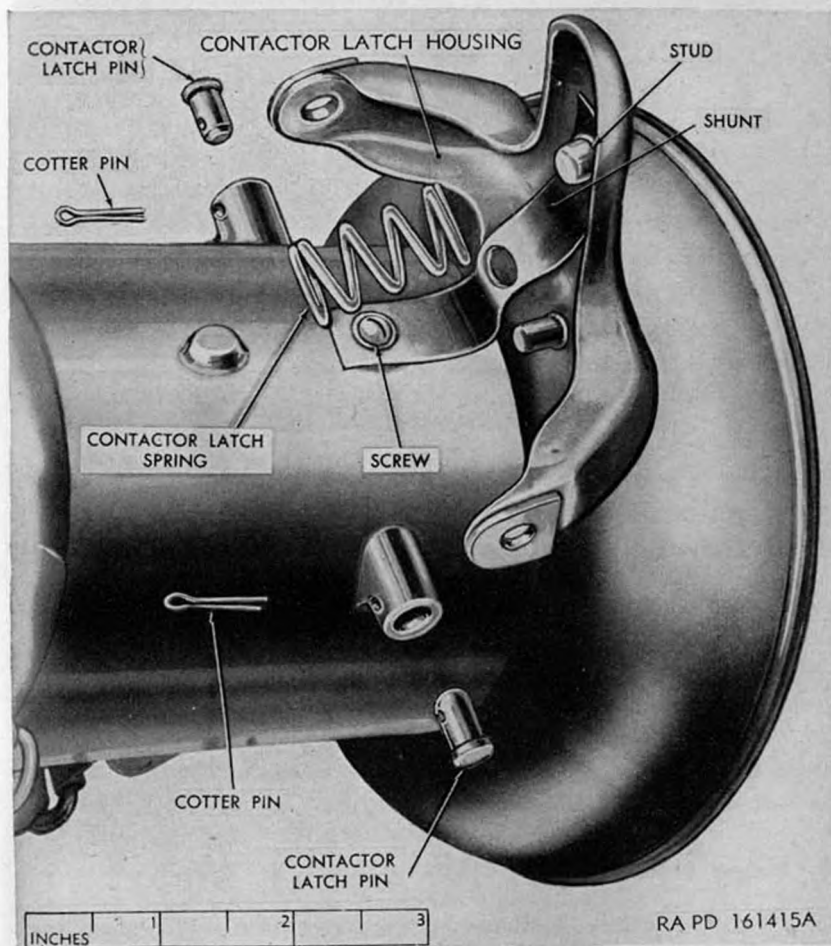

Figure 46. Contactor latch parts of launcher M20B1.
a. Remove the cotter pin (fig. 46) from each contactor latch pin and withdraw the two contactor latch pins.
a. Firmly secure the contactor latch shunt (fig. 46) to the barrel by means of the screw.